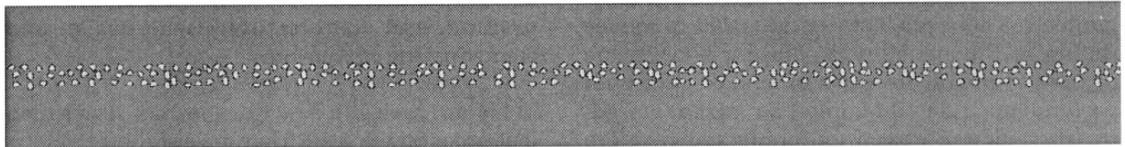

Figure 2. Centerline Segregation.
2. **Centerline Segregation:** The second most common type of segregation is centerline segregation (shown in Figure 2). This normally occurs in the center of the lane and is primarily attributable to coarse aggregate as it is discharged from the conveyor system into the auger area. It then rolls underneath the auger chain drive or gearbox and concentrates in the center of the mat being laid.